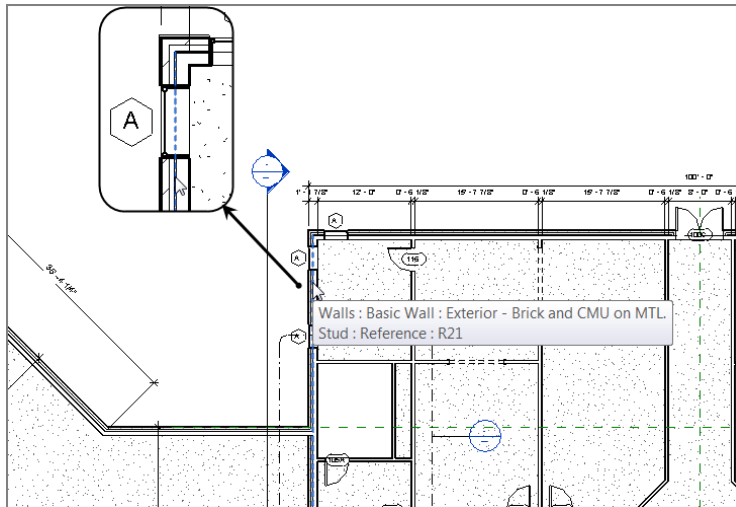

FIGURE 8.14: Adding the first vertical grid by picking the centerline of the exterior wall
4. Pick the centerline of the west exterior wall of the east wing (see Figure 8.14).